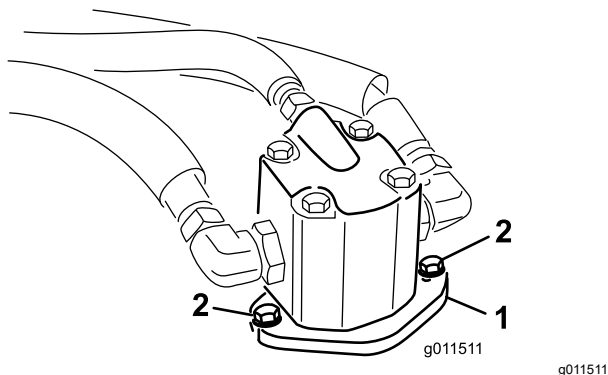

Figure 84
4. Remove the bolts securing the hydraulic motor to the mower deck (Figure 84).